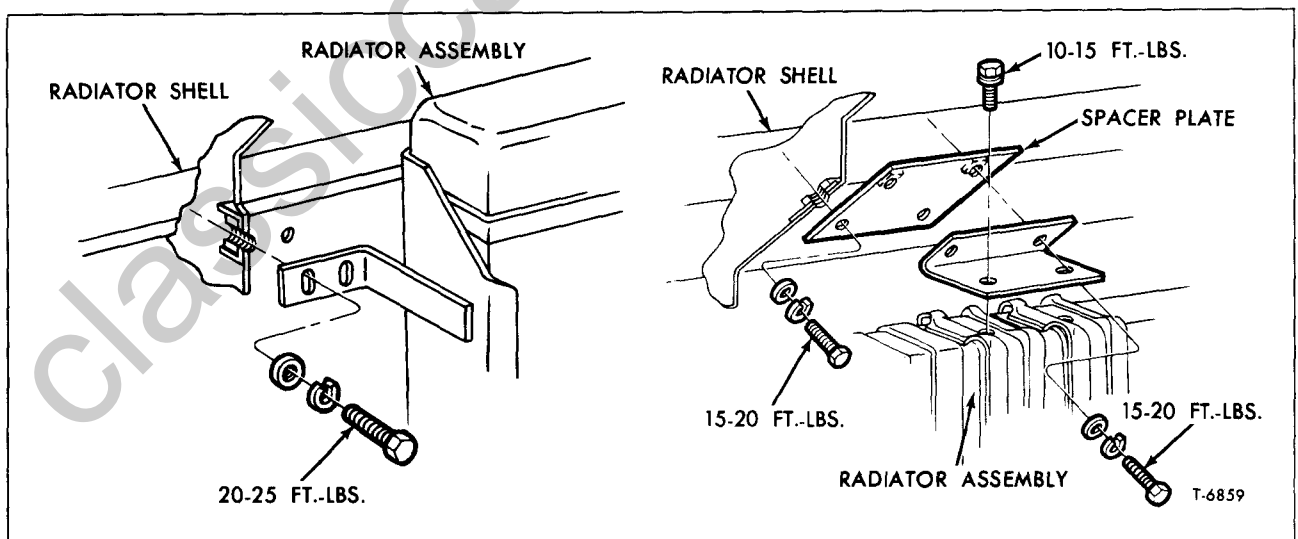

Figure 1—Radiator Upper Mounting (HM, JM80)
Removal (Figs. 1 and 2)
Installation (Figs. 1 and 2)
1. Carefully place radiator core in position on radiator shell. Tighten all attaching to proper torque as indicated in figures 1 and 2.